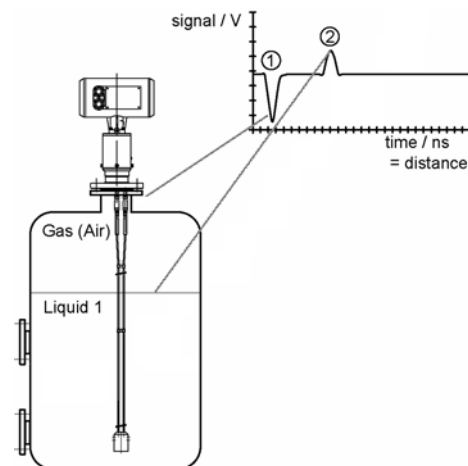

Figure 3
**Direct Mode:** Used for level measurement of materials where the dielectric constant is above 1.8 (twin cable; 2.1 for single cable units). The electromagnetic pulse is emitted by the Flexar sensor and guided along the probe (“wave guide”). Refer to Figure 3. The pulse reflects off the first material surface it meets and returns to the sensor electronics. The distance from the sensor process connection (flange or threaded connection) to the target material is proportional to the time-of-flight of the pulse. The level of the material is determined by subtracting the distance to the material from the distance to the bottom of the tank.
(1) = Flange reflection, (2) = Level measurement.